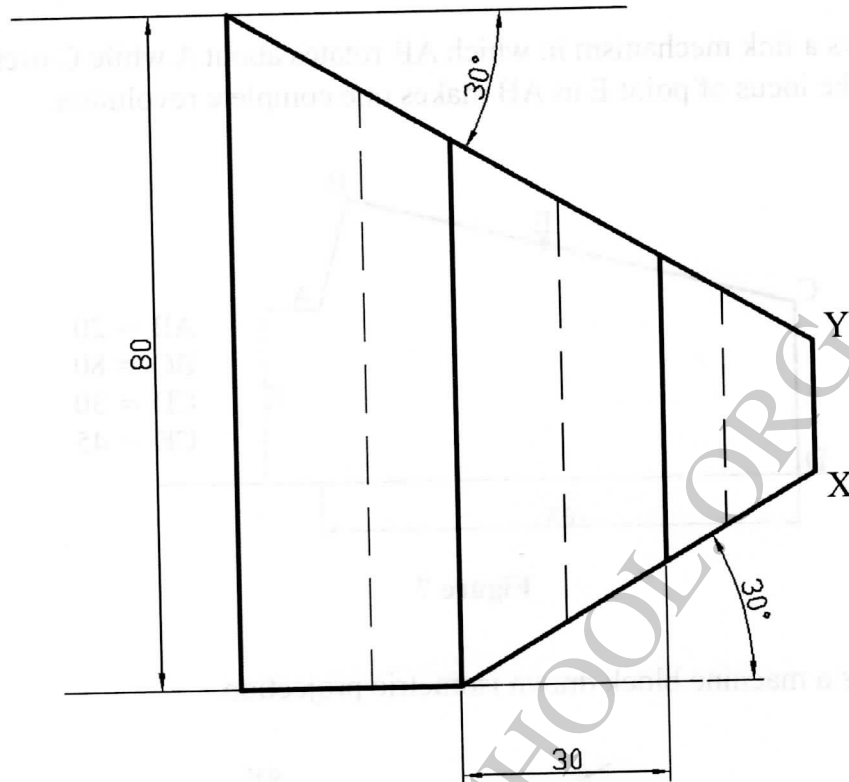

Figure 9
- 14 **Figure 9** shows the front elevation of a truncated heptagonal prism, whose length of base is 30 mm.